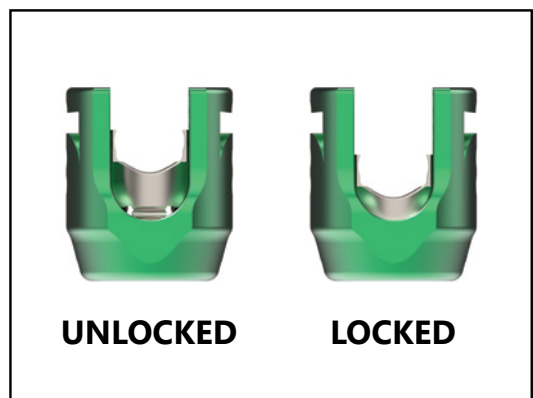

Figure 9.4
**TIP:** After locking the components, the surgeon should pull the instrument upward and rotate slightly to confirm that the components have been securely connected. The surgeon can also verify the implant has been appropriately locked by visualizing the silver cap position within the Housing (Figure 9.4).